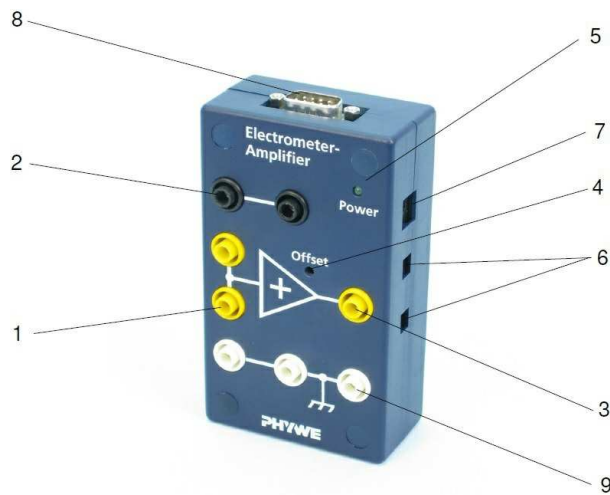

Fig. 3: Connections of the electrometer amplifier
Connect the connector (7) of the electrometer amplifier (Fig. 3) to the power supply. Put the bridge ("short-circuit plug") between (1) and (2) and the 10 nF capacitor between (1) and (9). Keep the electrometer amplifier's input earthed by connecting (9) to the ground of the HV power supply.